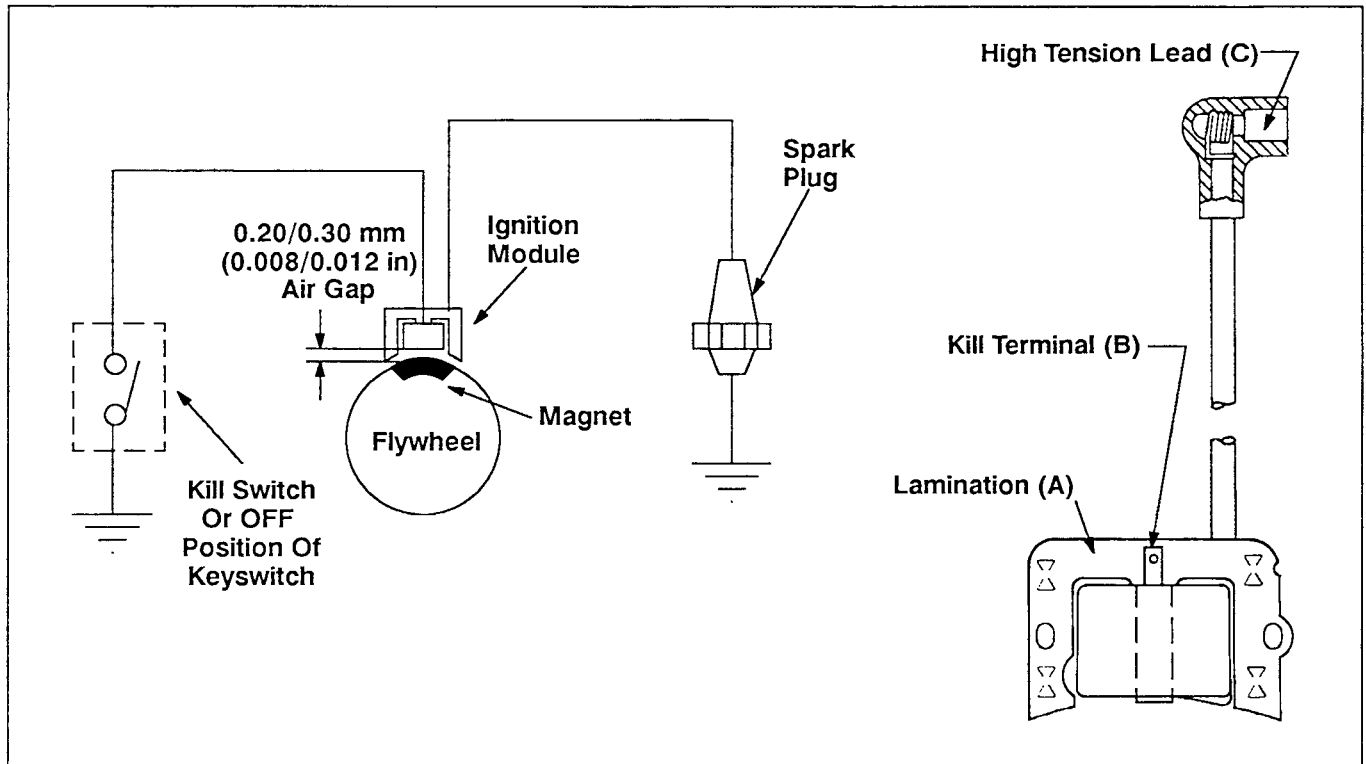

Figure 8-3. Electronic Magneto Ignition System.
4b. Measure the resistance of module secondary using an ohmmeter (see Figures 8-3 and 8-4): <p>Connect one ohmmeter lead to laminations (A). Connect the other lead to the spark plug terminal of high-tension lead (C). With the ohmmeter leads connected in this manner, the resistance of secondary should be 7,900 to 10,850 ohms.</p> <p>NOTE: This test cannot be performed unless module has been fired at least once.</p>	If the resistance is low or 0 ohms , the module secondary is shorted. Replace the module. <p>If the resistance is high or infinity ohms, the module secondary is open. Replace the module.</p> <p>If the resistance is within the specified range, the module secondary is OK.</p>